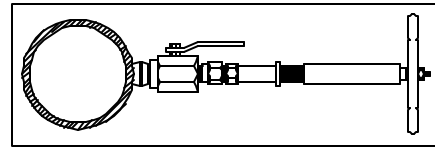

Figure 5. Hot Tap Drilling Machines
- With the access valve in the full open position, install an appropriate Hot Tap Drilling Machine (Figure 5) and drill a hole in the pipe (hole sizes per the chart below). Follow the instructions given by the Hot Tap Drilling Machine.